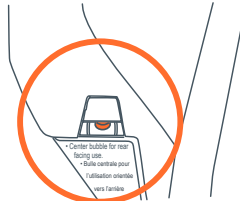

Fig. 29c
- Use body weight or apply weight in seat with hand to compress the vehicle seat cushion then insert the UAS lower connector onto the vehicle anchor point (Fig. 29a). Tighten the UAS lower connector by pulling up on the webbing end through opening in seat fabric (Fig. 29b). Pull up on the lower UAS lower connector to ensure the UAS lower connector is securely fastened (Fig. 29c).
- Ensure the angle indicator bubble is centered between the lines for children to keep the child's airway open. Recheck after child is secured in seat (Fig. 29c).